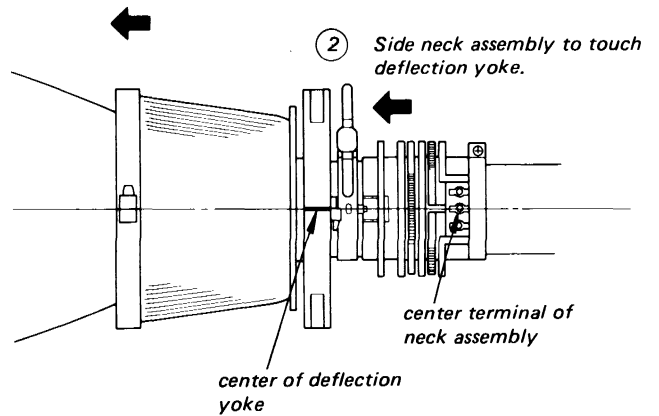

Fig. 3-27
- (3) Tighten the red deflection yoke screw in position.
- (4) Position the red neck assembly as shown in Fig. 3-27, and tighten the neck assembly screw in position.
- ① Slide deflection yoke as far forward as it will go.